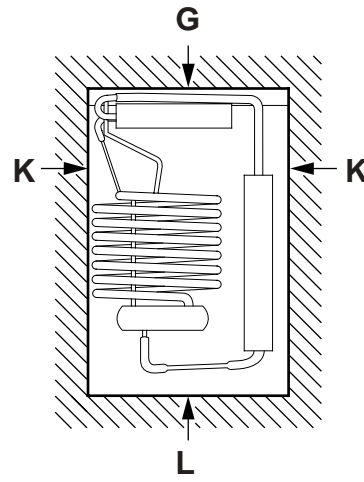

FIG. 4
**NOTE:** A wood strip must be in place across the upper opening of the enclosure. The top frame of the refrigerator will be anchored to the wood strip with screws. See FIG. 4.